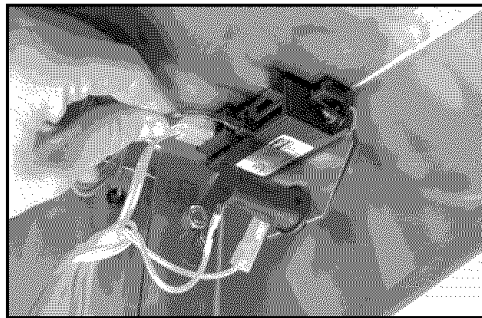

Fig. 7
2. Attach the wires coming out from the sides of the grill to the Igniter terminals. (See Fig. 7)